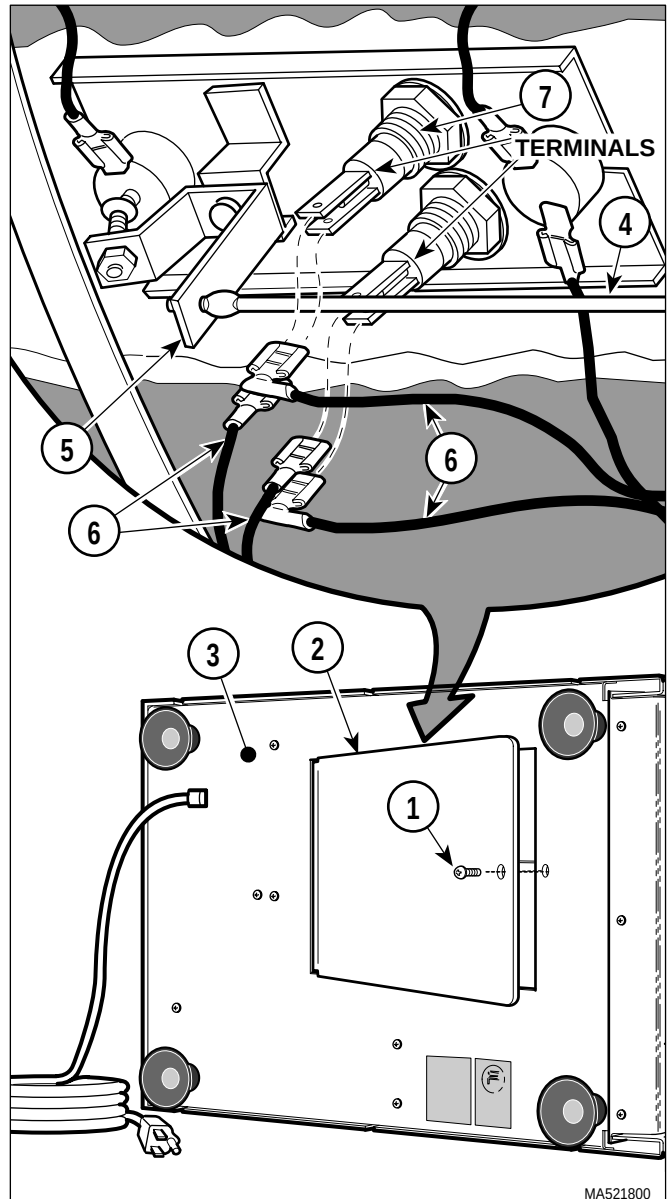
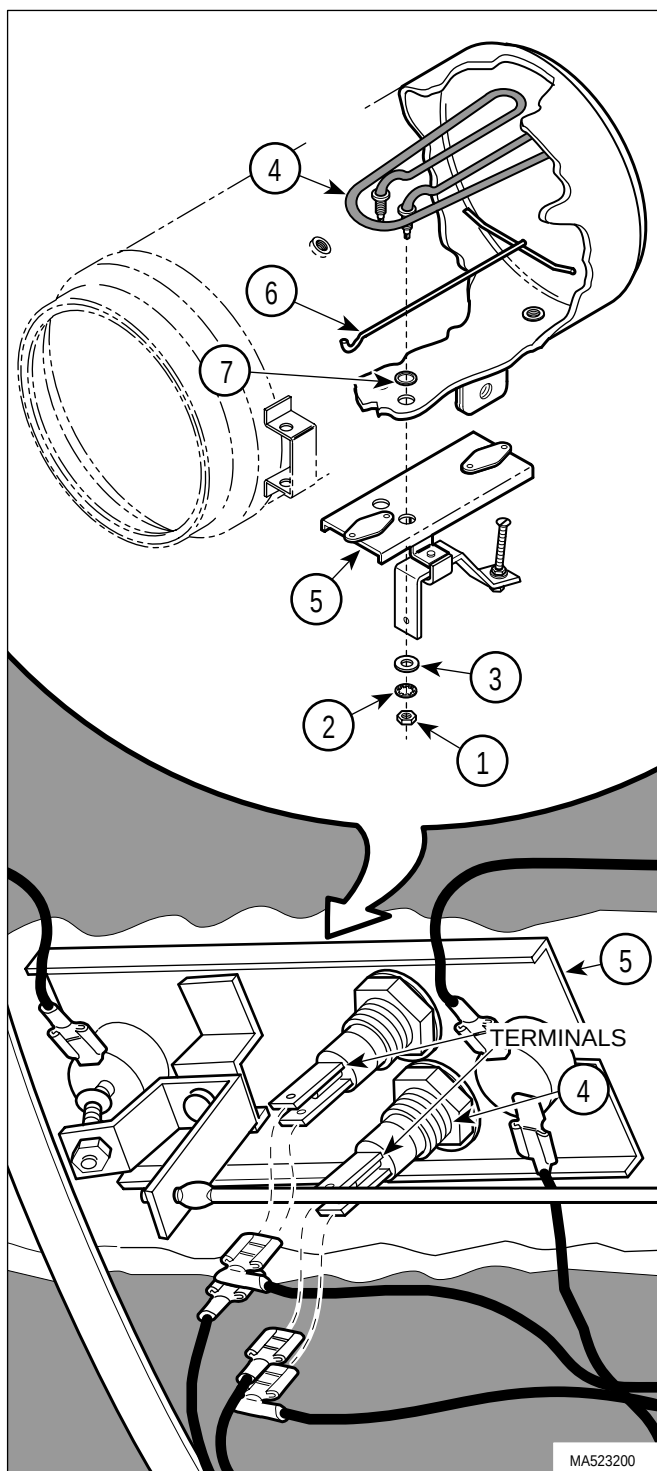

Figure 4-5. Inspection Cover Removal / Installation
Figure 4-6. Heating Element Removal / Installation
- (5) Remove screw (1, Figure 4-5) and inspection cover (2) from base (3).
- (6) Taking care not to kink rod (4), flex rod and remove it from rocker bracket (5).
- (7) Tag and disconnect four wires (6) from terminals of heating element (7).
- (9) Remove two nuts (1, Figure 4-6), lock-washers (2), and washers (3) from terminal posts of heating element (4).
- (10) Pull bracket (5) off of terminal posts of heating element (4).
- (11) Remove heating element (4) and spacer (6) from inside of chamber.
- (12) Remove one gasket (7) from each terminal post of heating element (4).
- (1) Install one gasket (7, Figure 4-6) on each terminal post of heating element (4).
- (2) Install spacer (6) and heating element (4) on chamber wall and secure with bracket (5), two washers (3), lockwashers (2), and nuts (1).
- (3) Connect four wires (6, Figure 4-5) to terminals of heating element (7).
- (4) Taking care not to kink rod (4), flex rod and insert it into rocker bracket (5).